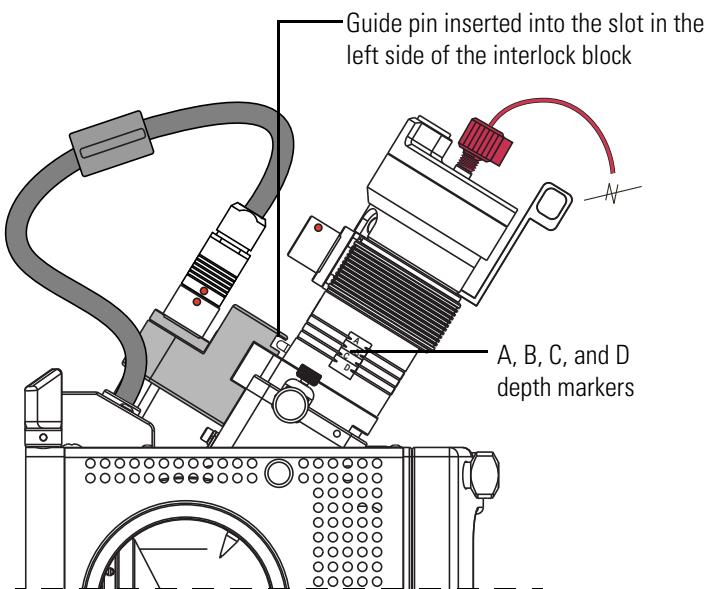

Figure 8-22. Guide pin inserted into the slot
- b. Pull the probe slightly up until the guide pin is level with the slot on the left side of the interlock block. Then turn the probe clockwise until the guide pin meets resistance from the interlock block (Figure 8-22).
- Using the A, B, C, and D markers on the probe as a guide, adjust the probe position (see Figure 8-22 on page 8-36).